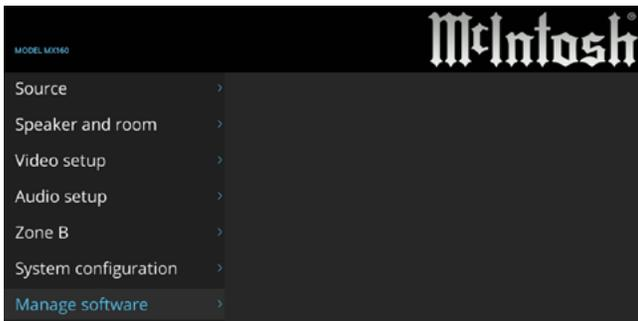

Figure 8
2. Select “Manage software” by using the Down ▼ Directional Push-button on the Remote Control. Refer to figure 8.